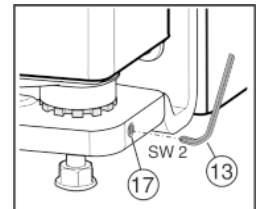

Fig. 17
- ▶ Extend the threaded pin Fig. 17 (17) a little (by one turn at most!).
- ▶ Tighten the threaded pin Fig. 17 (17) again to secure the bearing pin.